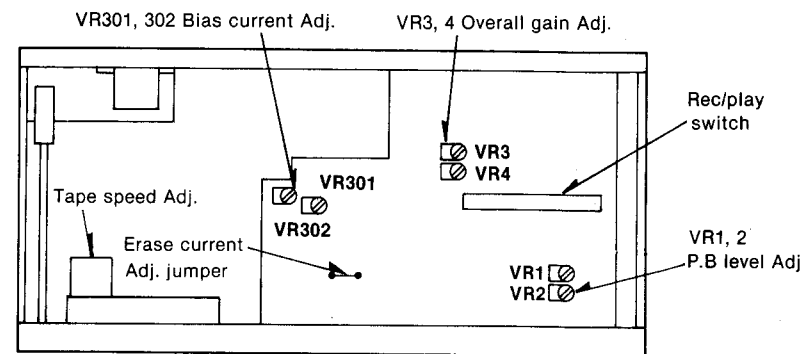

Fig. 1
- 1) Aumentar la corriente de polarización girando VR301 (L-CH) y, VR302 (R-CH). (Ver la Fig. 1 de la página 14).
6. If measured value is not within the standard value, adjust it by using the tape speed adjustment VR shown in fig. 1.
1. If the measured value is not within the standard, adjust VR1 (L-CH) or VR2 (R-CH) (See fig. 1).